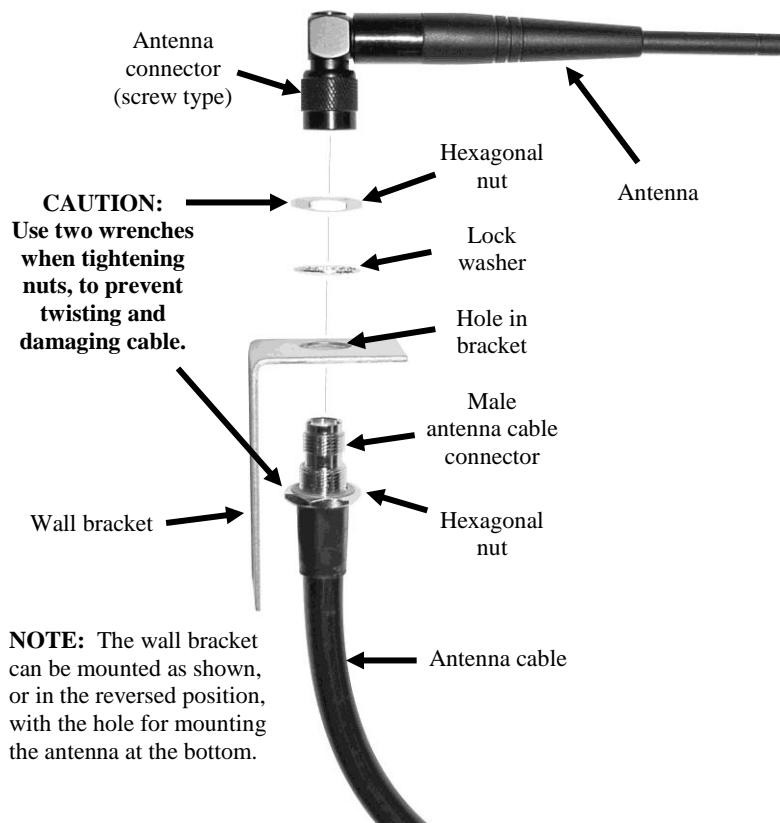

Figure 14. Remote antenna mounting on wall bracket
- Insert the antenna cable connector through the hole in the mounting bracket as shown in Figure 14, and screw the hexagonal nut onto the connector to secure it in place on the bracket.